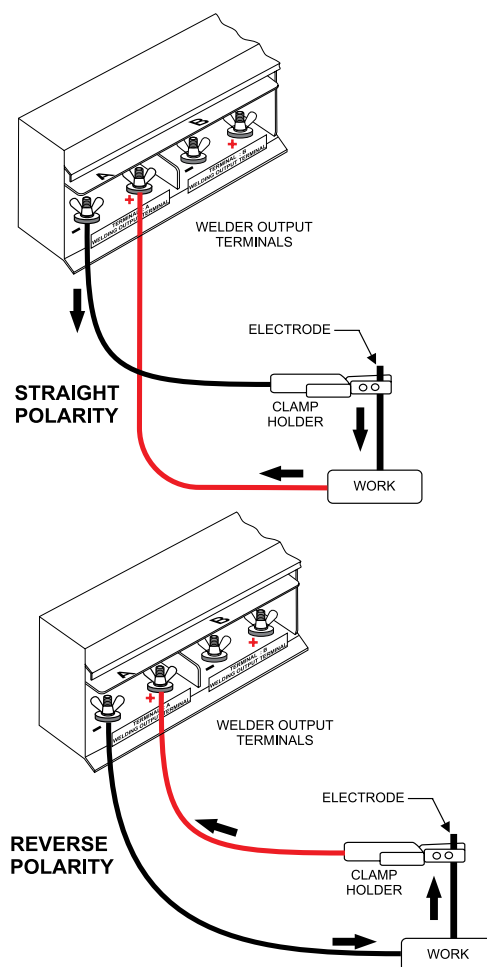

Figure 19. Welding Cable Connections (Electrode Type Correct)
- Attach the clamp holder to the electrode as shown in Figure 19 and Figure 20.